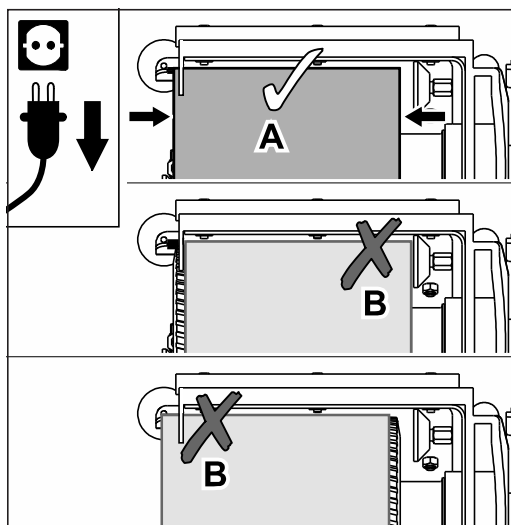

Fig. 14 Position the sanding belt so that it evenly covers the sanding drum (A). Avoid position B without fail (FIRE DANGER)! Similar to figure.
- 10 Position the sanding belt so that it evenly covers the sanding drum (fig. 14, A).
Position B of the sanding belt in fig. 14 provoke sparking during sanding! Avoid this without fail!